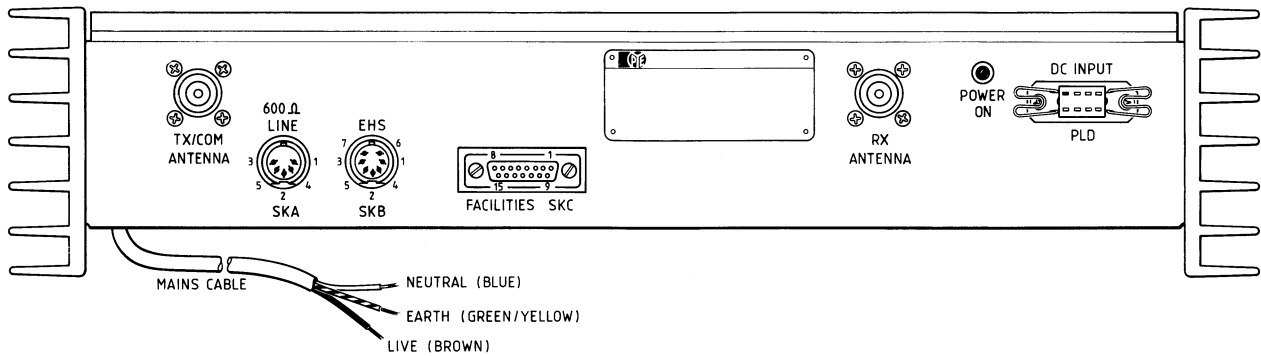

Fig 2.3 Connector Panel
5. With reference to fig 2.3 connect the required power supplies and control cable to the equipment.